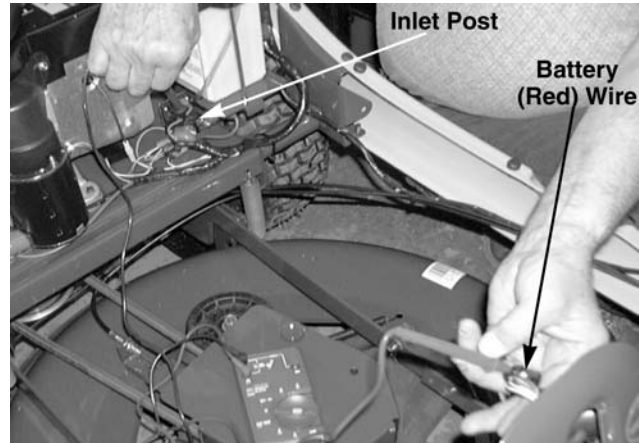

Figure 8-78.
–There will be **CONTINUITY**. See Figure 8-78.